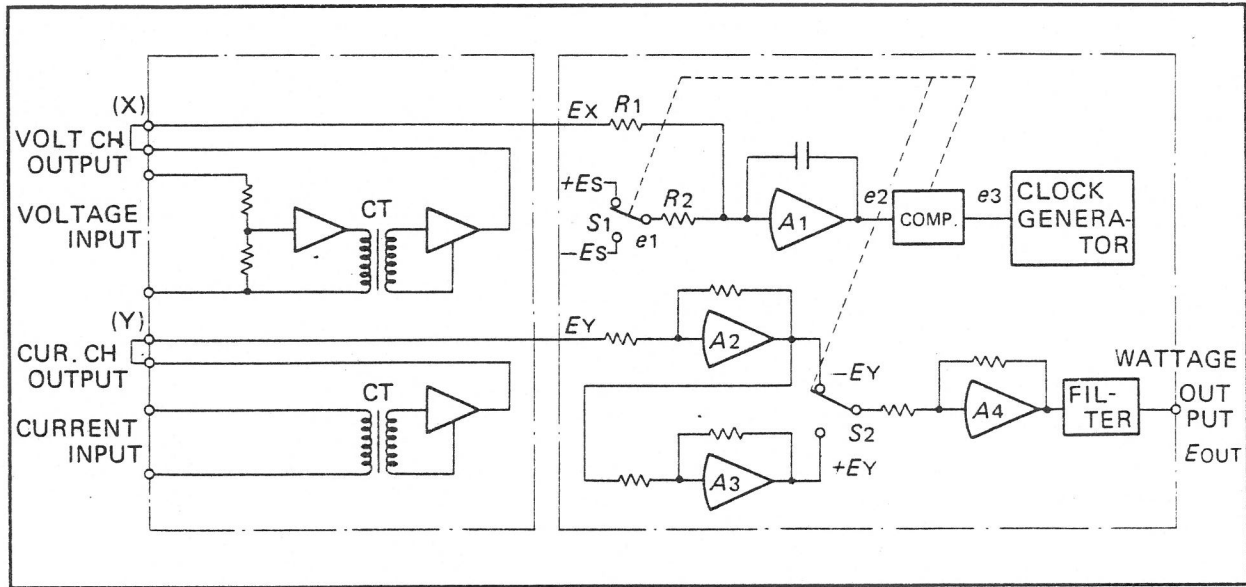

Figure 5-1.
A block diagram of the Type 2885 watt converter is shown in Figure 5-1. Input voltage and current are isolated from the output circuit through two current transformers (CT) and are converted into voltage input signals.